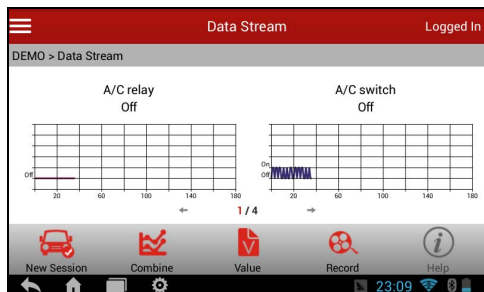

Fig. 5-16
- ✓ **Graph** – displays the parameters in waveform graphs. Refer to Fig. 5-16.